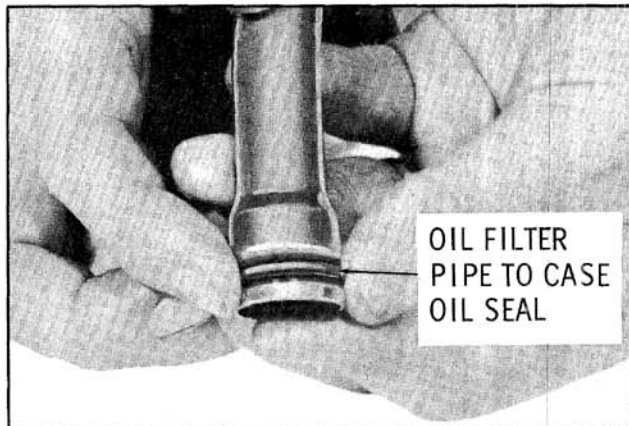

Fig. 6-538 Oil Filter Pipe to Case Oil Seal
11. Install oil filter pipe to case seal. (Fig. 6-538)